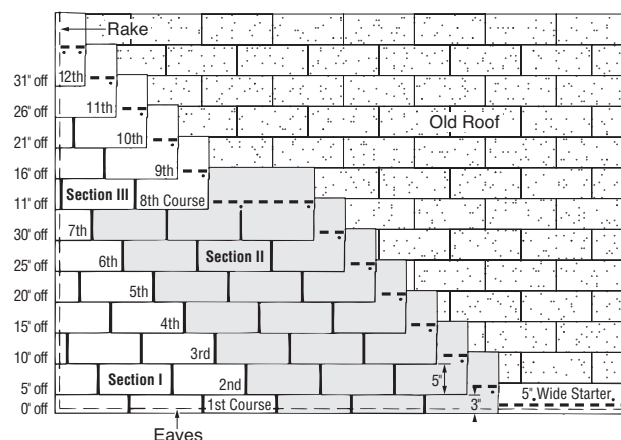

Figure 10-16: Five Off, Twelve Up, Nested.
1ST COURSE: The first course is made of 10" by 36" shingle strips made by cutting 2" off the bottom of the tabs of regular shingles. Align the top edge of the strips so they butt up against the tabs of the shingles in the old third course (Figure 10-16).
1. Begin the second course by cutting 5" off the left end of a shingle and aligning the top edge with the butt edge of the shingle in the old fourth course (Figure 10-16).
1. Begin the eighth course by cutting 11" off the left end of a shingle and applying the 25" piece over the seventh course shingle, aligned with the left edge of the seventh course (*Figure 10-16*).